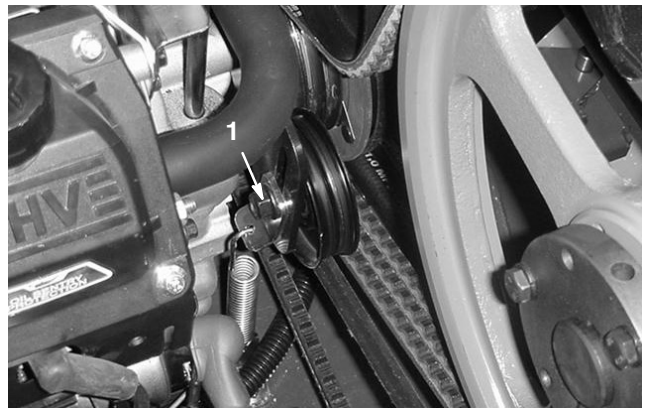

Figure 58
3. Loosen the pump belt idler bolt just enough to allow movement within it's adjustment slot (Fig. 58).